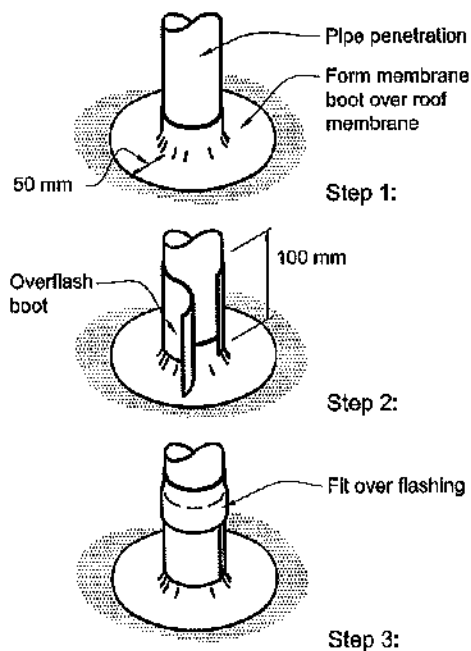

Figure 61: Verges in membrane
- c) Figure 61: Verges and eaves,